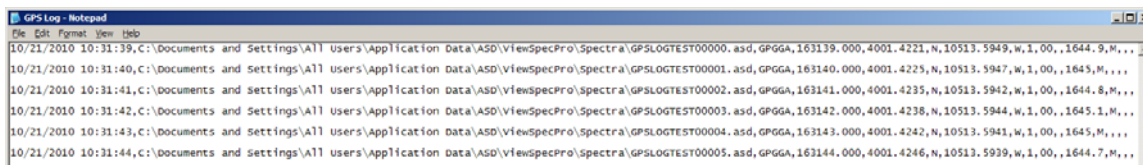

Figure 3-73: GPS Log
- Step 3 Choose a location in which to save the newly created GPS log (Figure 3-73).